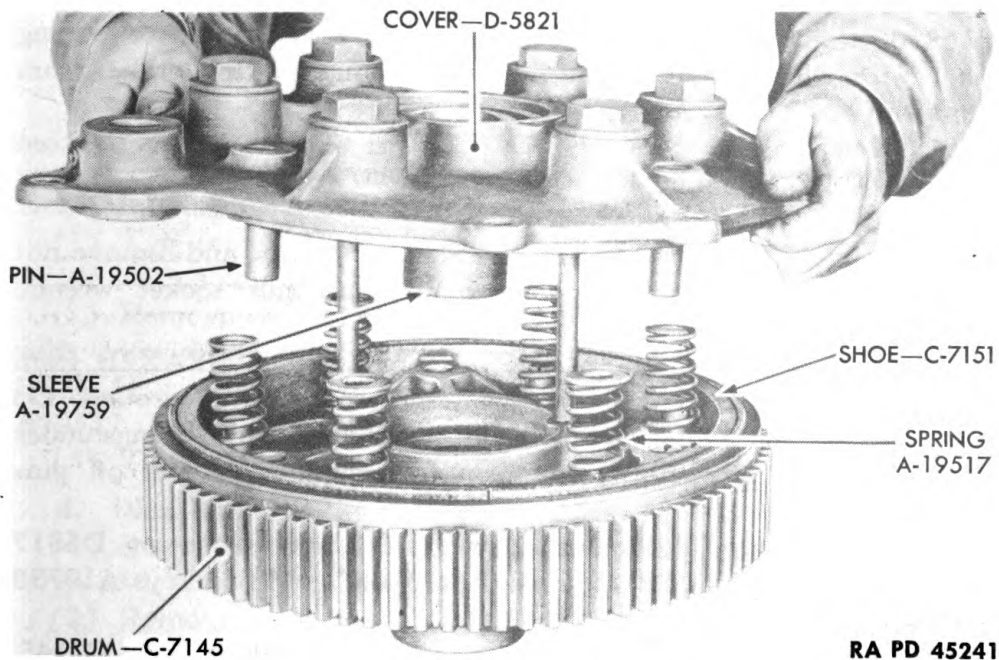

Figure 178—Removing Housing Cover from Elevating Brake Drum
(1) Tap pinion B105247 back out of cover D5821 and drum C7145, with a copper hammer.
(2) Remove seal A171399 from drum. Turn cover and drum over with drum down and lift cover from drum (fig. 178). Six washers BEBX1P will drop out of cover when cover is lifted away from springs A19517. Remove springs and sleeve A19759.
(6) Pack recess in bottom of brake drum shaft end cover with grease. Coat the four end cover retaining screw threads with COMPOUND, rust-preventive, light. Secure end cover to housing cover with four screws and washers.
(7) Coat the six brake shoe springs with a light film of COMPOUND, rust-preventive, light, and install on the six spring guide pins in the elevating clutch shoe (figs. 178 and 196). Place brake shoe spring washers on top of springs. Coat the threads of the six spring